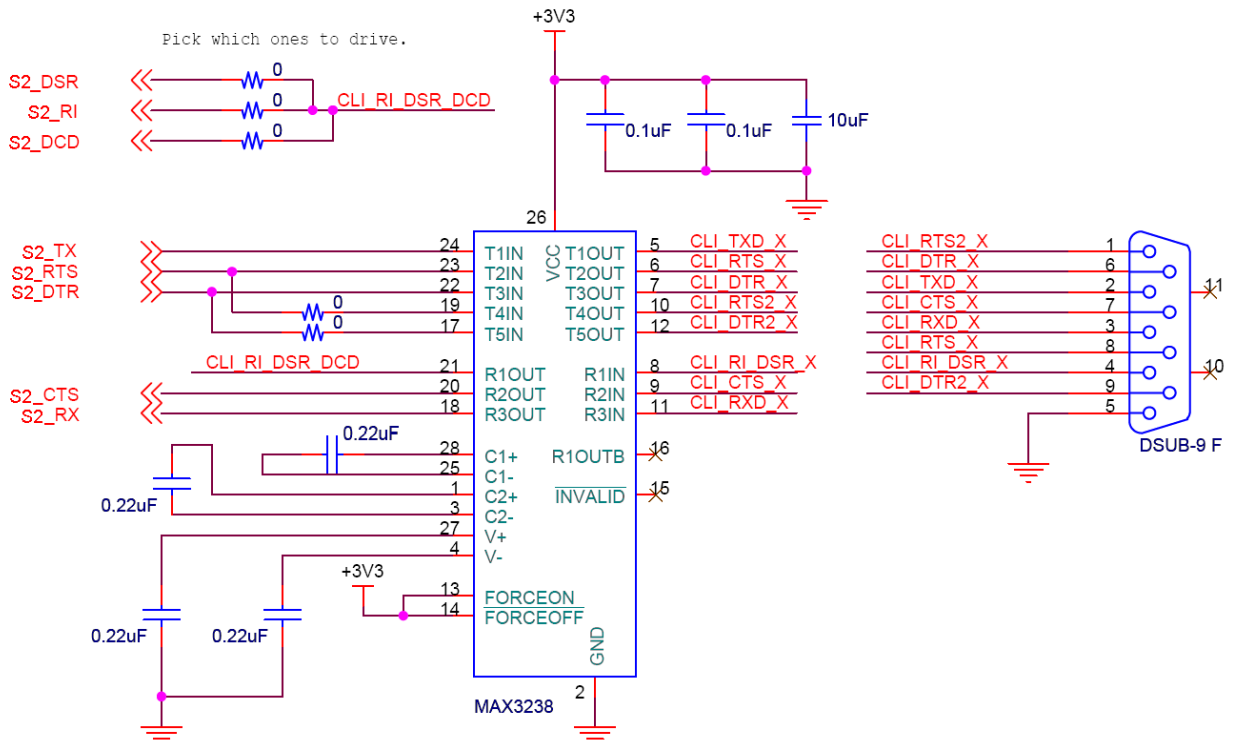

Figure 3 Serial 2 Application Circuit
- Figure 3 Serial 2 Application Circuit 8